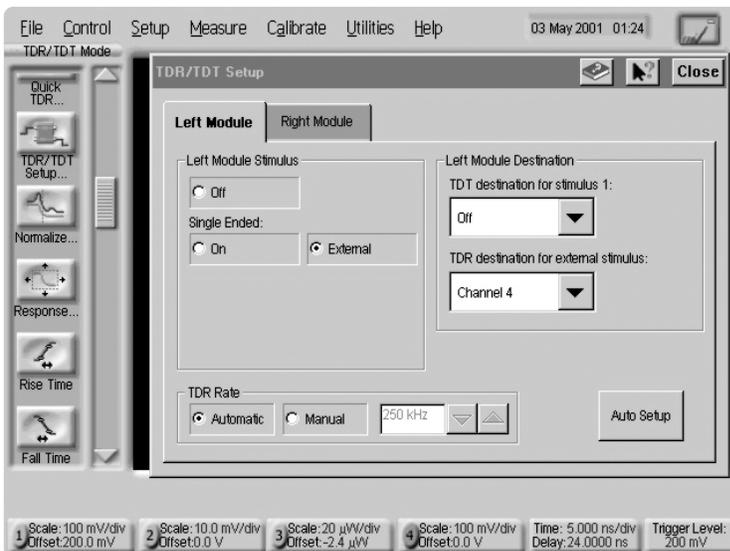

Figure 5. TDR/TDT Setup display for stimulus selection.
4. To select an external stimulus for the 86100A, you need to select the <TDR/TDT Setup>. Then choose “External”. Under TDR destination for external stimulus, select Channel 4. Press the <Auto Setup> icon to prepare the instrument for making TDR/TDT measurements and close the dialog box. See Figure 5.